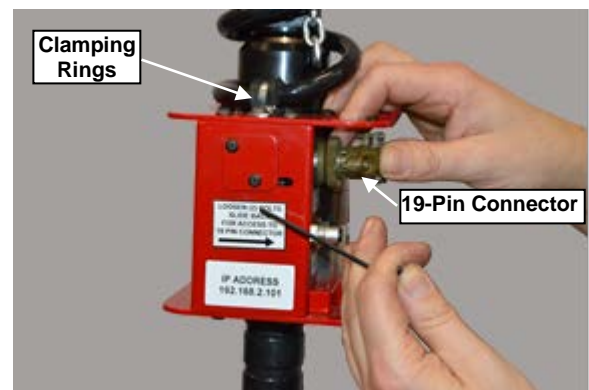

Figure 2-9
- 7) Connect the 19-pin connector to the receptacle, slide it back into the control handle's housing and secure the (2) two M4 screws. (Refer to Figure 2-9)
- 8) Secure the (2) two M6 bolts for each of the handle coil cable clamping rings located on top of the control handle. (Refer to Figure 2-9)